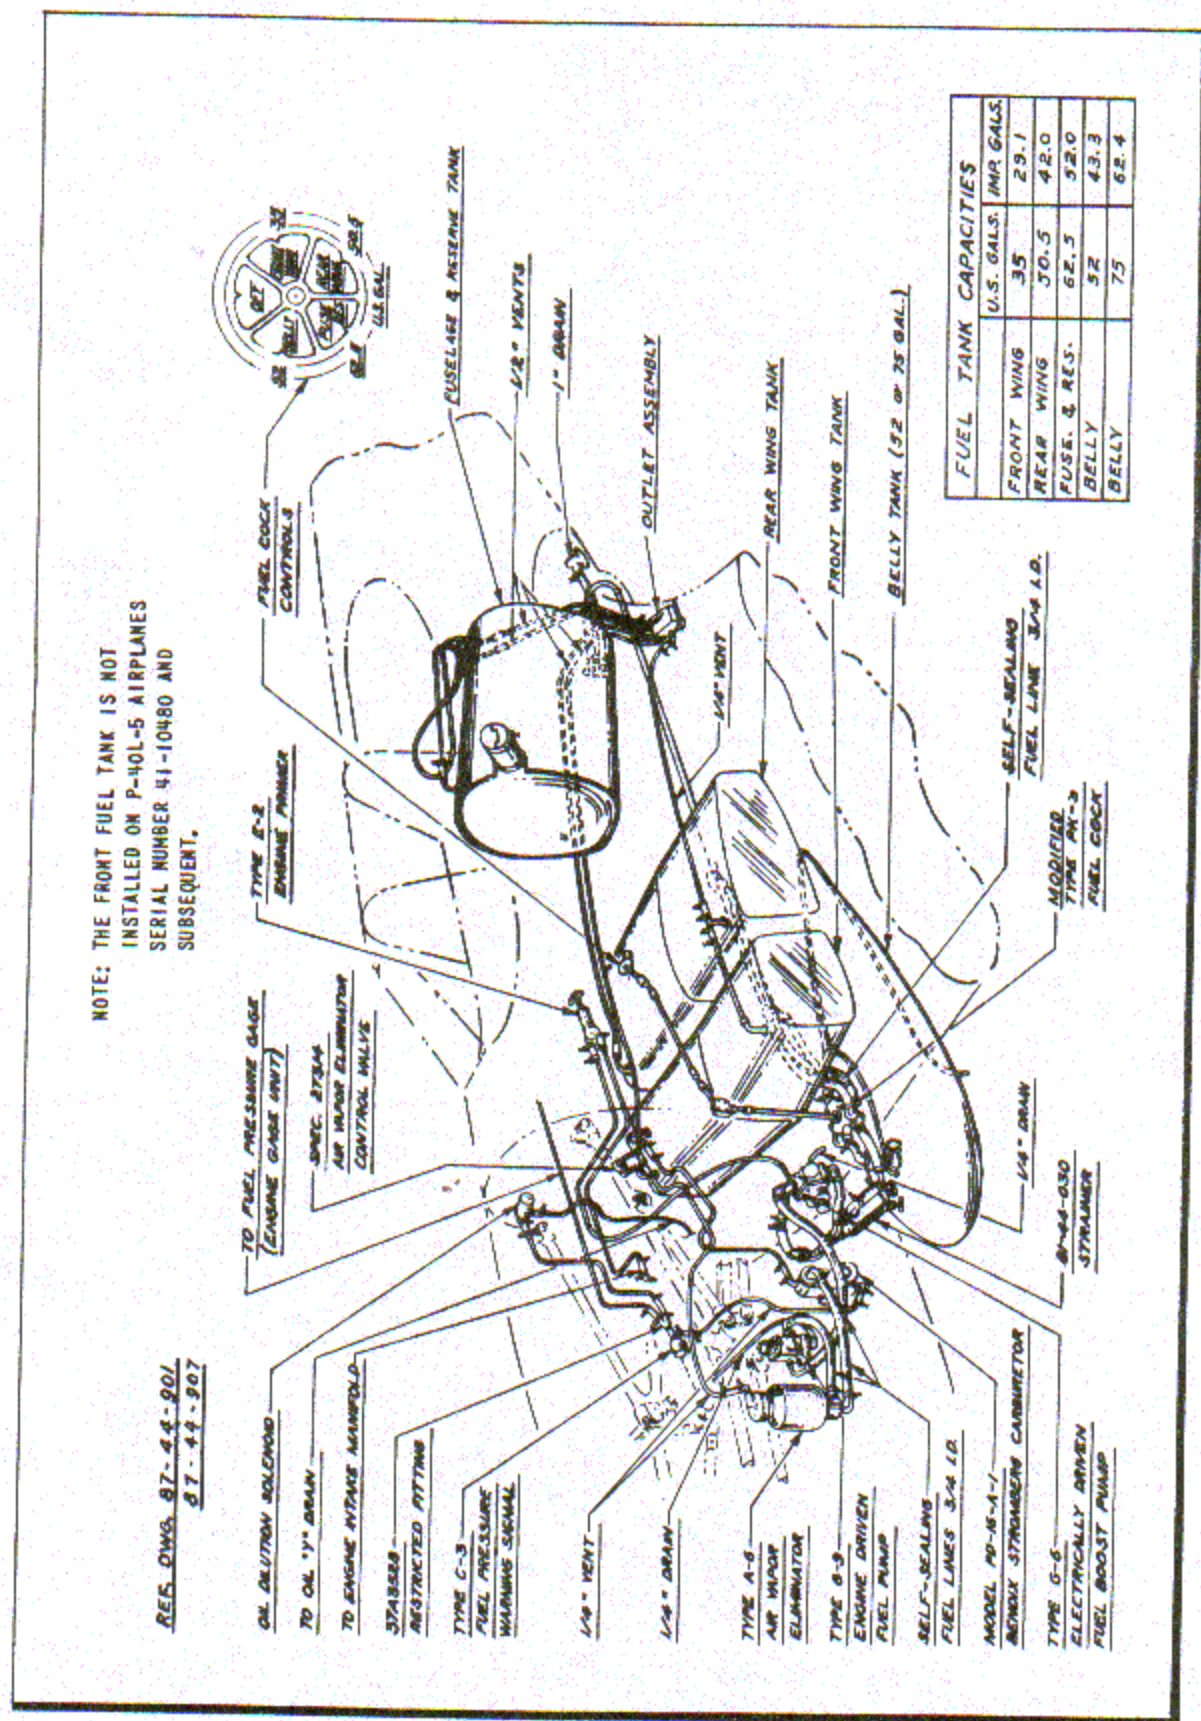

Figure 4 - Fuel System Diagram
(2) The fuselage tank is located aft of the armor plate at station No. 5, and carries part of the main fuel and 35 U. S. (29 Imperial) gallons reserve fuel. There is no division or standpipe within the fuselage tank for the purpose of trapping reserve fuel, but instead, the reserve fuel is calibrated between the 0- and 35-gallon marks on the fuel quantity gage which is located on the instrument panel. The fuselage tank filler neck, is accessible on the left side of the fuselage, below the rear-vision window. The fuselage tank is referred to as the "Fuselage and Reserve" tank.
(3) The belly tank is supported by the bomb shackle assembly which is installed below the wing panel on the airplane center line. Either a 52 U. S. (43 Imperial) gallon, 75 U. S. (62 Imperial) gallon, or 150 U. S. (125 Imperial) gallon belly tank may be installed. The belly tank may be dropped while in flight by pulling up on the bomb-tank release handle which is located within easy reach of the pilot on the left side of the cockpit.
(4) The fuel tank capacities are given on the Fuel System Diagram. (See figure 4.)
(5) Fuel is supplied to the carburetor by an engine-driven fuel pump, and an electrically driven fuel boost pump. The boost pump, which is controlled by a switch on the main switch panel, must be turned "ON" whenever the engine is running. If the fuel pressure should drop below 12 pounds per square inch, a fuel pressure warning signal light, located on the upper left side of the instrument panel, will flash on. A test switch for checking the fuel pressure warning light is provided on the main switch panel.
(6) Fuel may be used from any of the four tanks by turning the fuel selector valve to the desired position. The fuel should be drawn from the "FRONT WING" tank in starting the engine, for warm-up, and for take-off. (Where front tank is not installed use rear wing tank instead.) After reaching a safe altitude, the fuel should be used from the tanks in the following order: (1) "BELLY," (2) "FUSE. - RESERVE" (Leave 35 U. S. (29 Imperial) gallons reserve fuel) (3) "FRONT WING," (4) "REAR WING," (5) "FUSE. - RESERVE" (35 U. S. (29 Imperial) gallons reserve fuel). If the belly tank is not installed, use fuel from the tanks in the order of (2), (3), (4), and (5).